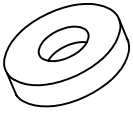

FIG. 1
- 1. WEATHER WARNING ! DO NOT ERECT YOUR BUILDING ON A WINDY DAY. ANY BUILDING LEFT PARTIALLY CONSTRUCTED MAY BE SERIOUSLY DAMAGED (FIG.1).**
- 3. ALL ASSEMBLY OPERATIONS MUST TAKE PLACE ON A COMPLETELY LEVEL SURFACE (FIG. 1)**
PARTIELLEMENT MONTÉ, LES PIÈCES POUVANT ÊTRE ENDOMMAGÉES (FIG. 1).
3. TOUTES LES OPÉRATIONS DE MONTAGE DOIVENT ÊTRE RÉALISÉES SUR UNE SURFACE PLANE (fig 1).